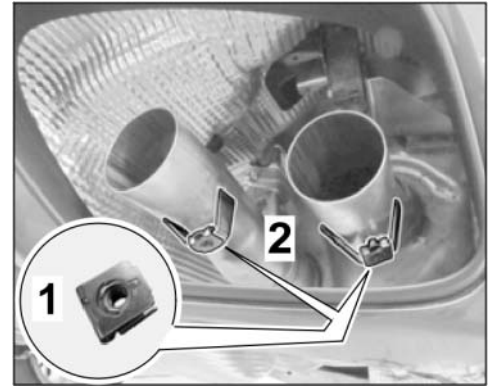

Figure 8
2.2 Install new speed nut M6 x 19.5 x 18 – VW602 49 (2 x) on holders on exhaust pipes of new rear silencers (left/right ⇒ *Figure 8*).